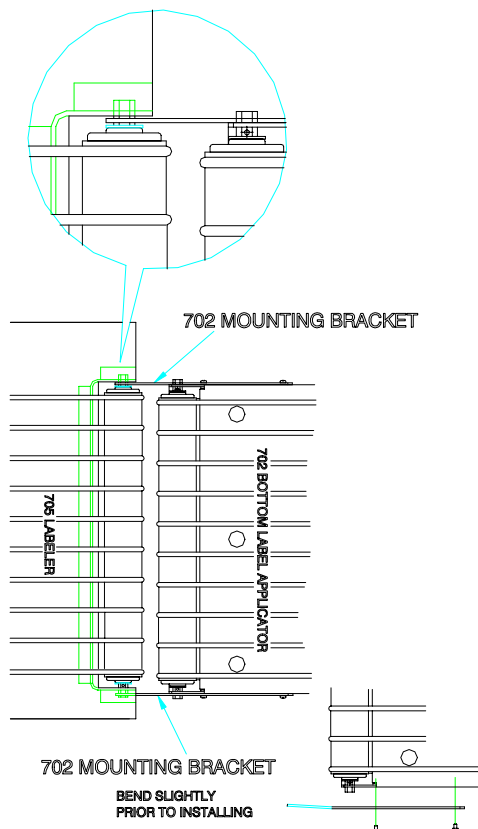
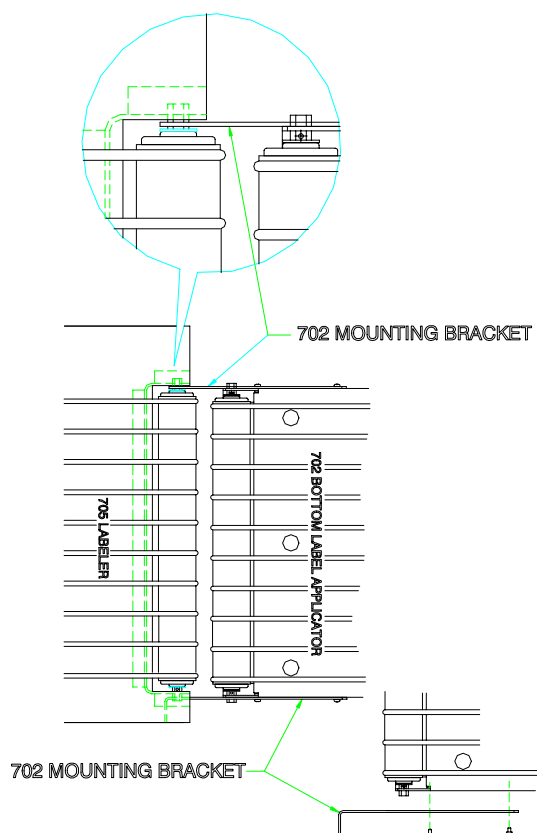

Figure 1: Installation using P/N 82962800A.
Figure 2: Installation using P/N 83021000A.
2. To install the 702 rear attaching bracket on the 705, grasp the right end of the 705 head pulley and pull it out far enough to slip the 702 attaching bracket over the end of the head pulley shaft inside the 705 slotted mount (Refer to figures 1&2). Note: The conveyor belts do not have to be removed to perform this step.
3. On units with attaching bracket P/N 82962800A bend the 705 attaching end inward slightly (Refer to Figure 1). On units with attaching bracket P/N 83021000A, install as shown in figure 2.